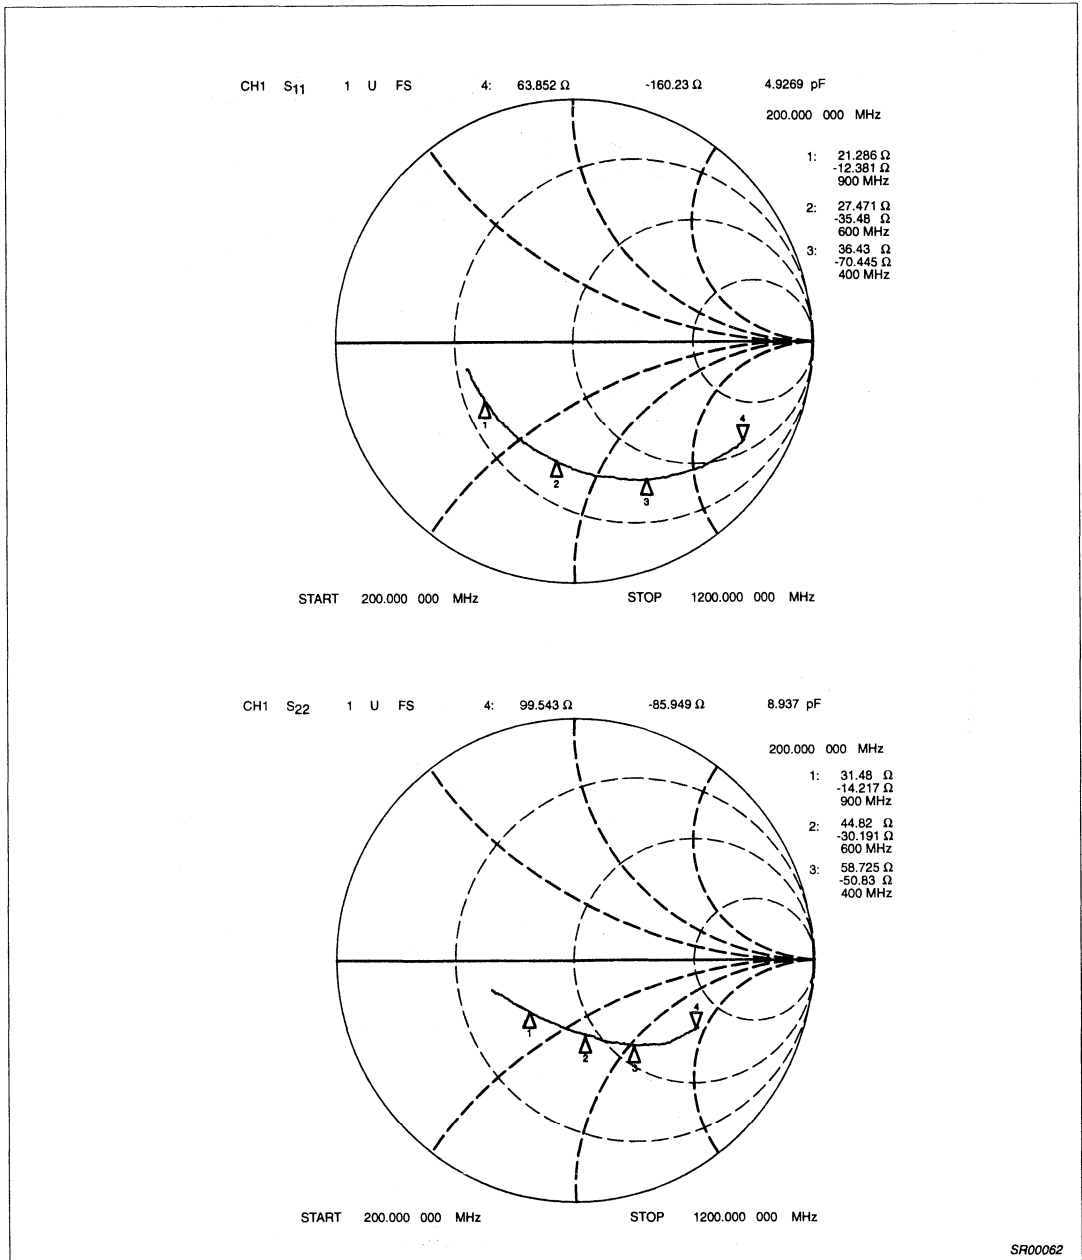

Figure 5. LNA Input and Output Match (at Device Pin)
**Impedance Match:** Intrinsic return loss at the input and output ports is 7dB and 9dB, respectively. With no external matching, the associated LNA gain is  $\approx 10$ dB and the noise figure is  $\approx 1.4$ dB. However, the return loss can be improved at 881MHz using suggested L/C elements (Figure 5) as the LNA is unconditionally stable.